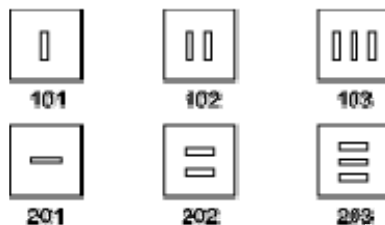

Figure 4. Helicopter Window Markings.
- a. Chemlights taped in aircraft windows. See *Figure 4*. For 53s the window directly aft of the crew chief's door works well. Air Force 53Js have an illuminated marquee to flash the stick number from the window.